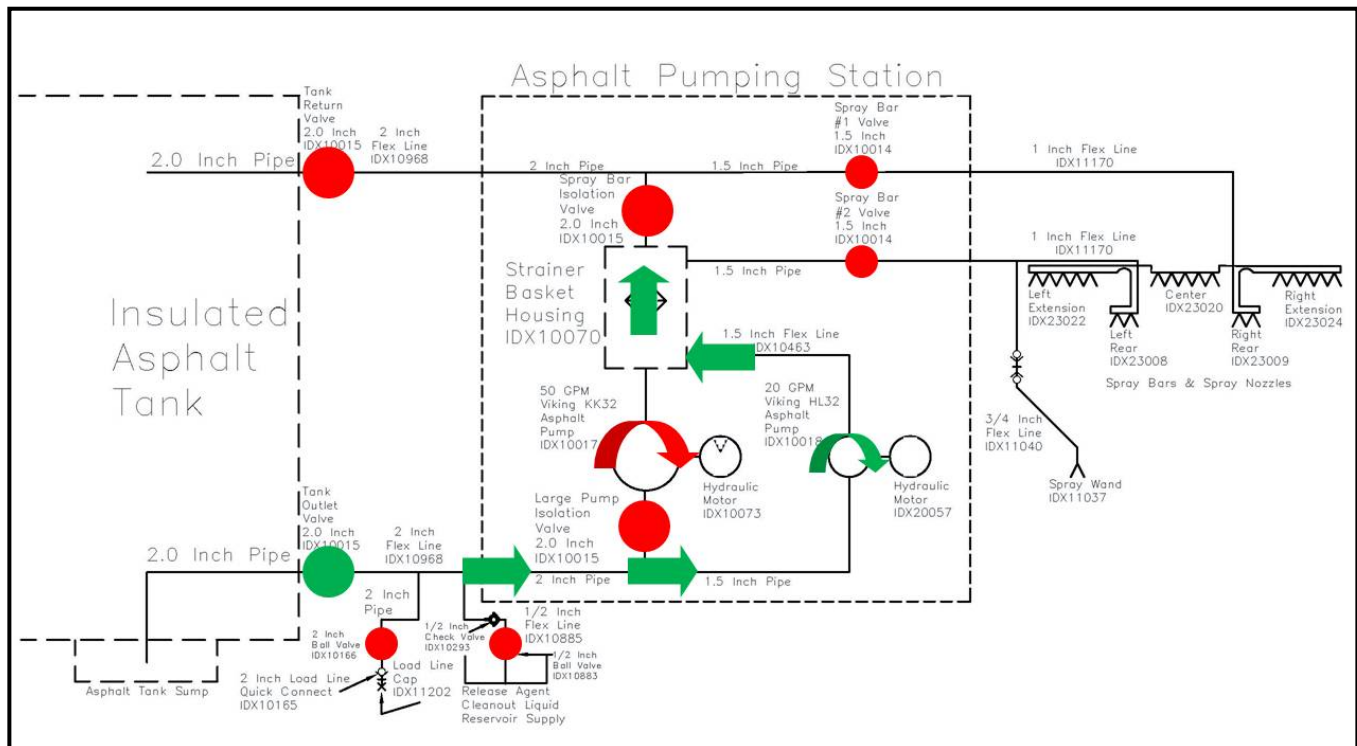

Figure 10.2 Small Asphalt Pump Bypass Setting - Pump and Valve Configuration
3. Activate Test Mode and configure the valves as shown in Figure 10.2 using the Test Mode Pump & Valve Control screen (Figure 6.3 shows the Test Mode screen).
Note: If Test Mode is active and navigation away from the Test Mode Pump & Valve Control Screen occurs, then verify that the valve configuration still matches Figure 10.2.
8. With the valves configured as shown in Figure 10.2, adjust the relief so that the pump outlet pressure at 18.6 gpm is approximately 80 psi.